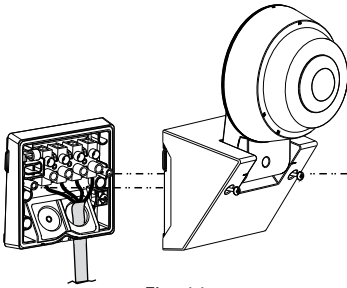

Fig. 11
- Fix the detector head to the bottom cover (See Fig. 11) and adjust the detector head to be in the right position (See Fig. 12 A & Fig. 12-B).